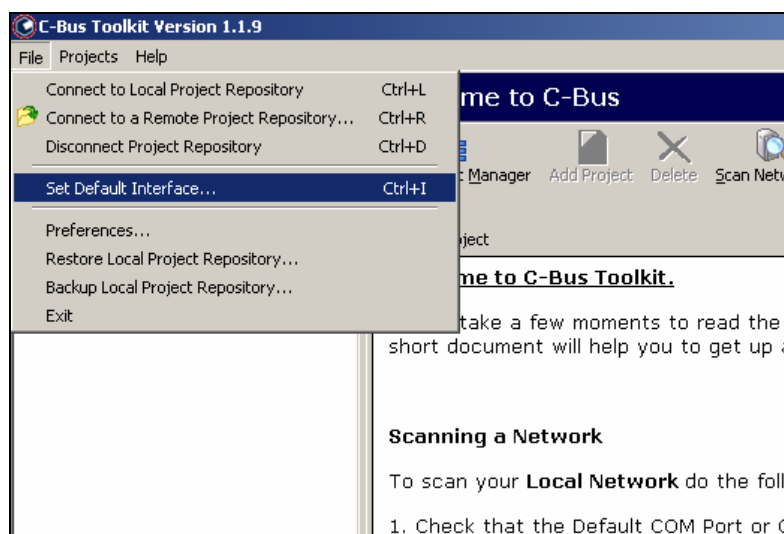

Figure 18
- 2) Select "Set Default Interface" from the File menu (Figure 18).